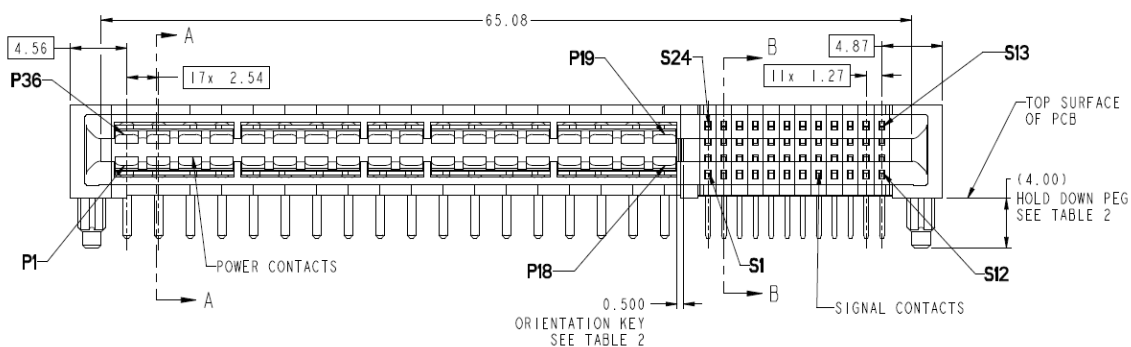

Figure 28 PSU mating connector
The mating connector on Open edge power distribution board is shown in Figure 28. The connector type is High Power Card Edge (FCI 10130248-005LF, or equivalent), having separate power (P) and signal (S) contact zones. Currently, these PSU's are available from multiple suppliers. Pin assignment of the connector is shown in Table 11.